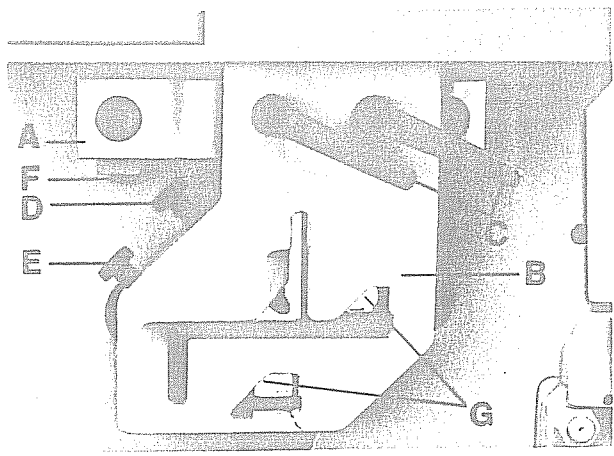

Fig. 37: Hold-down KBLH 300
a) KBLH 300: Loosen clamping lever "B", and push the hold-down plate "C" off the stop rail (Cf. fig. 37).
(Cf. fig. 37)